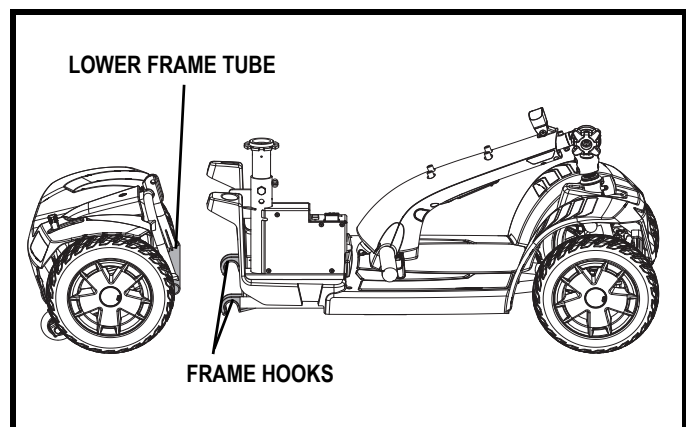

Figure 27. Frame Separation
3. Lift up on the seat post and pivot the rear section rearwards until the frame hooks are no longer resting on the lower frame tube. See **figure 27**.
4. Slowly separate the two sections of the scooter. See **figure 27**.
1. Position the front and rear sections of your scooter as shown in **figure 27**.
2. Lift the front section as you align the frame hooks of the front section with the lower frame tube of the rear section. See **figure 27**.